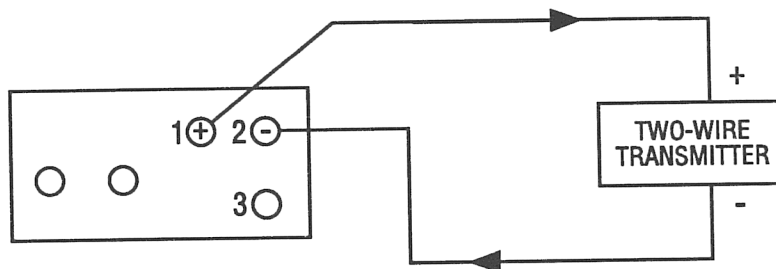

FIGURE 1
2. Become familiar with the designations and polarities of the five input/output jacks of the PSC-4000, refer to Figure 1 in this manual or the back panel label of the unit.
4. When current is being simulated or read, use current jacks labeled 1, 2, and 3. Depending on the mode of operation, the jacks are used as shown in Figure 1.